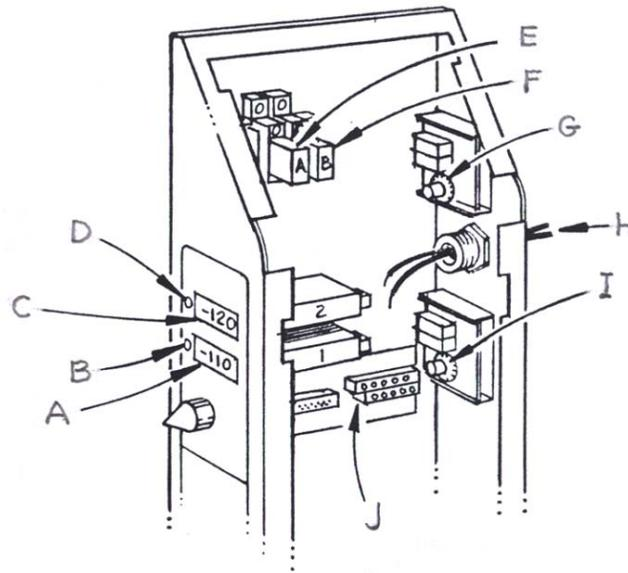

Figure 9-11: Temperature module options—parts identification for option 600212-04
- C. Option 600212-04: Second temperature meter & two setpoint indications, see Figure 9-11.
Check the operation of the setpoint relay(s) every year if running at less than the recommended minimum current. See Figure 9-9 through Figure 9-11. If it is necessary to replace a relay, refer to the following part numbers.